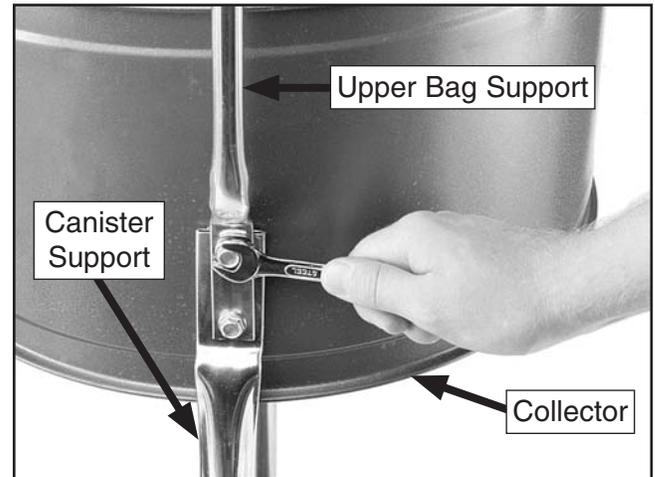

Figure 15. Mounting collector to brackets.
G1030Z2/G1030Z2P only: Place the upper bag support over the canister support and secure it with (2) $\frac{5}{16}$ "-18 x $\frac{1}{2}$ " flange bolts, as shown in **Figure 15**.